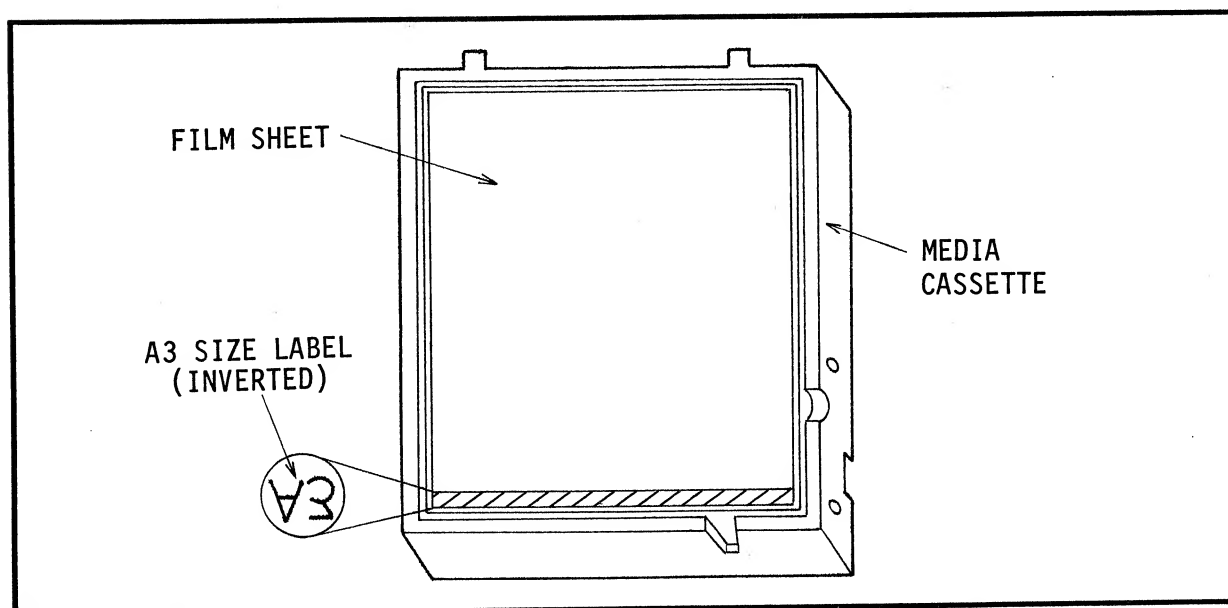

Figure 3-14. Orienting Film in the Media Cassette (A3 size)
6. The film must be oriented such that the size label (i.e., A3) at the top of the sheet is at the bottom left-hand corner of the media cassette (i.e., upside down and backwards). Refer to Figure 3-14.